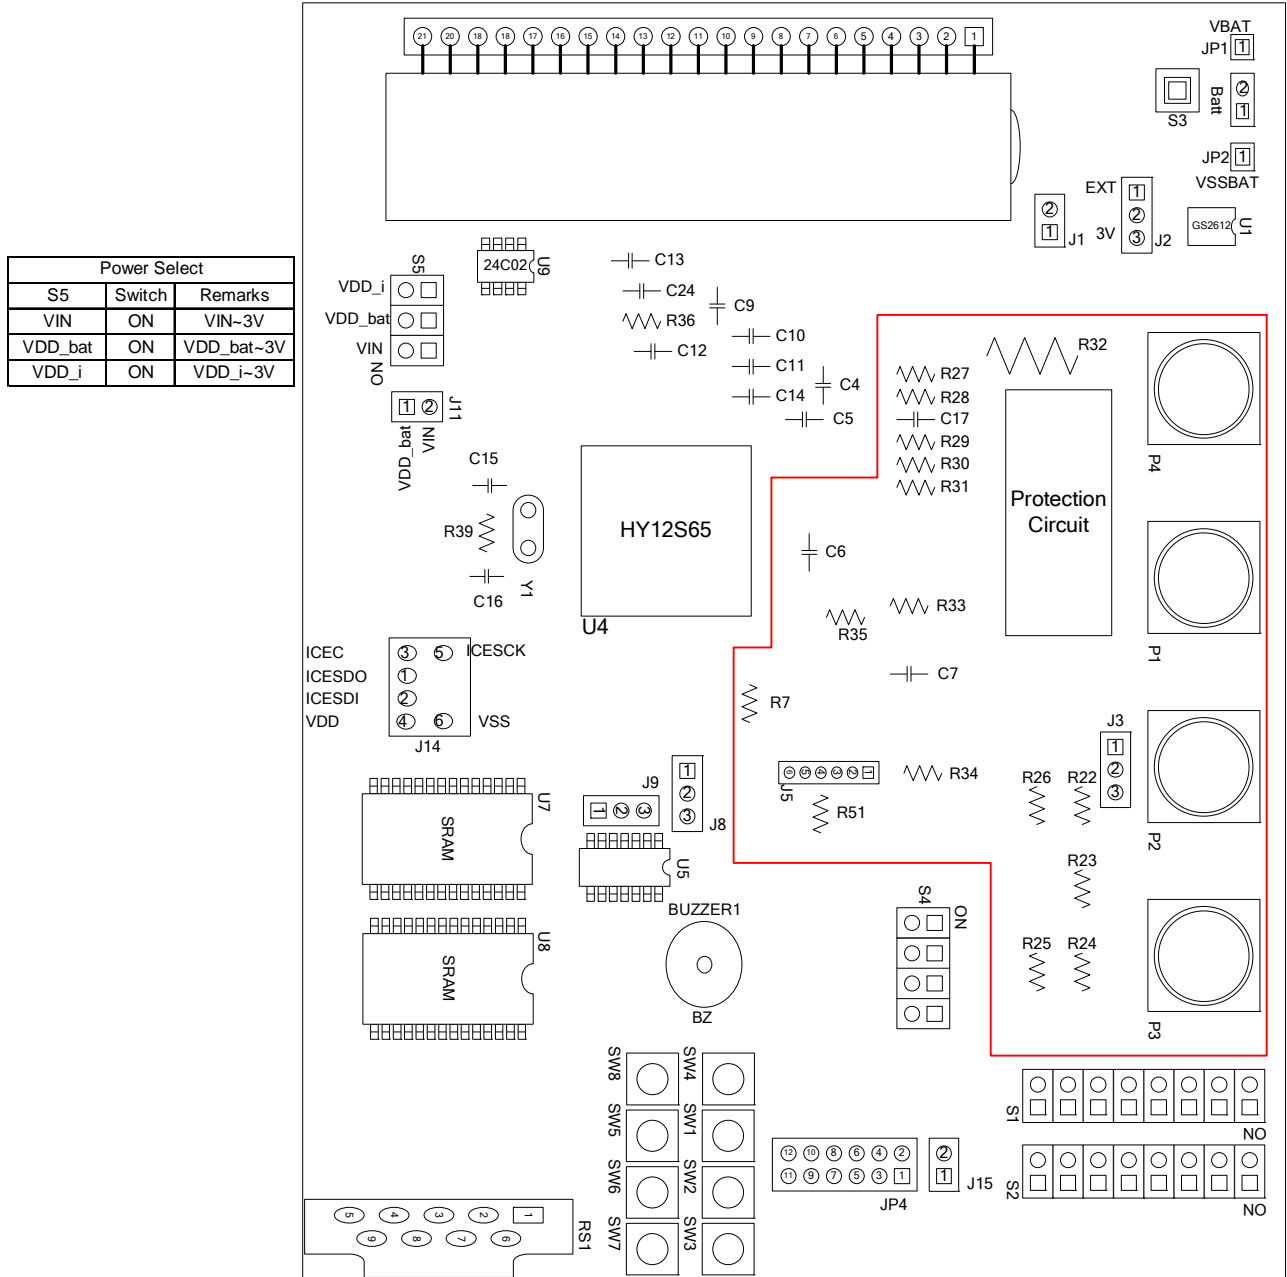
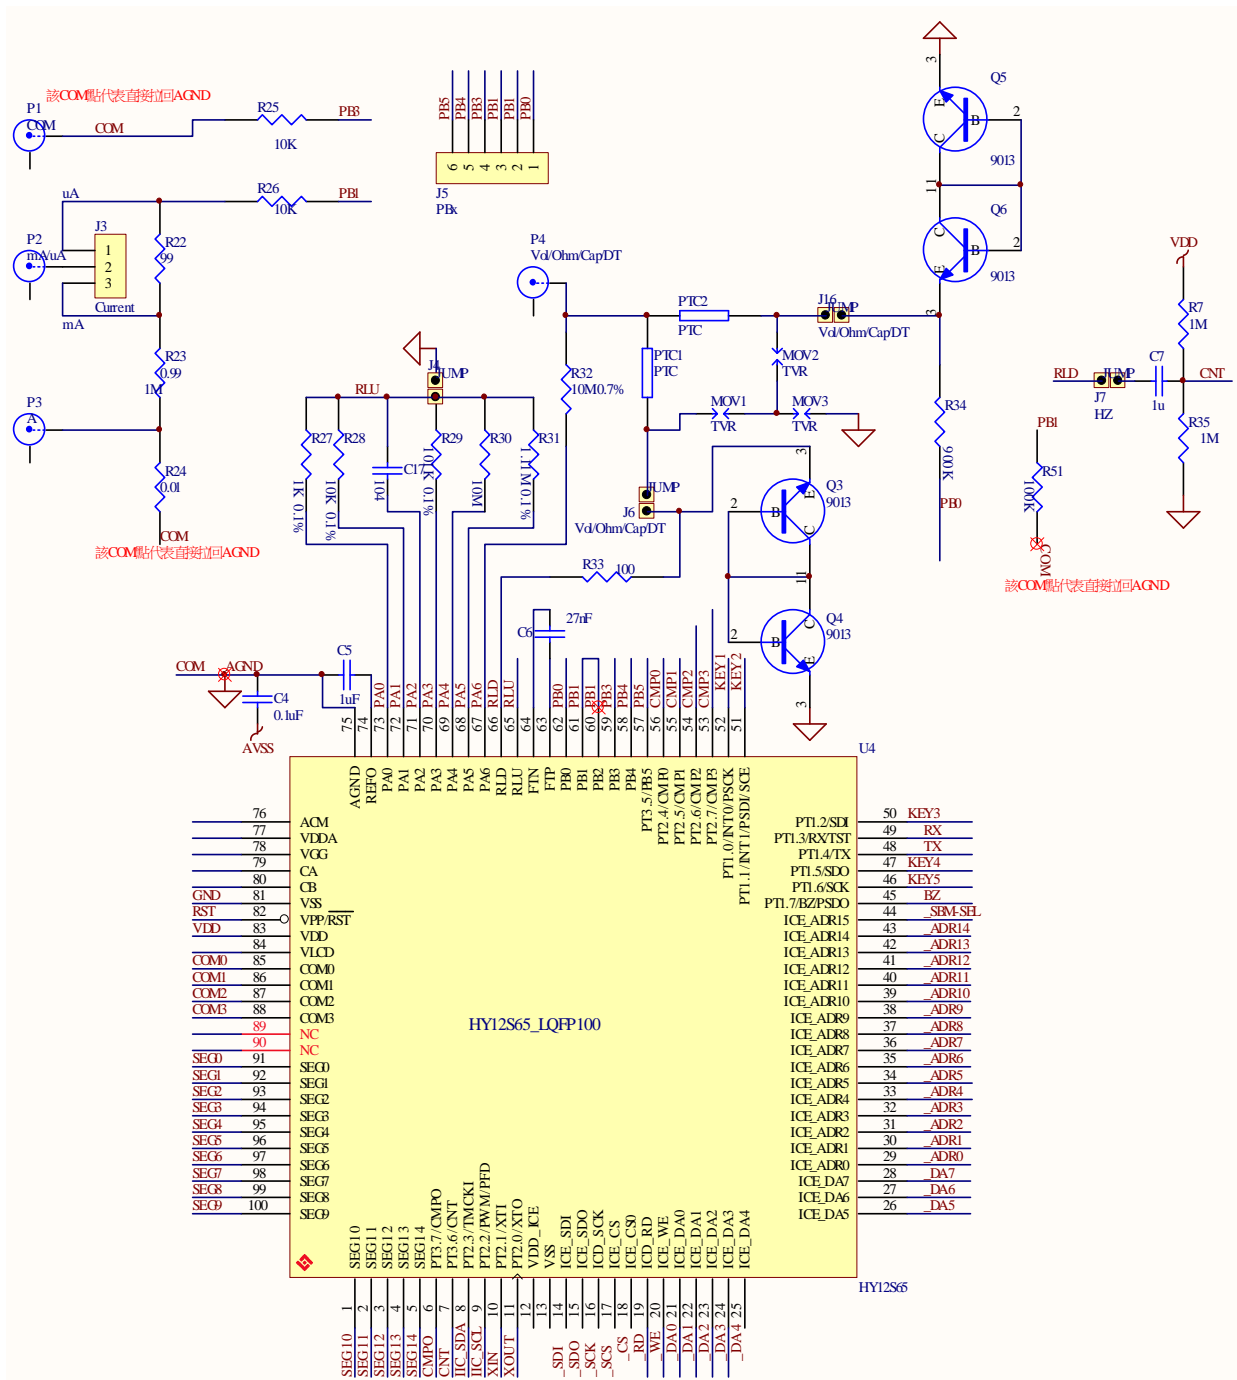

Figure 3
Figure 17
HY-IDE ICE Board is the chip board of HY12S65. Its main function is to implement emulation of HY12P Series Products. This ICE chip can directly emulate HY12P6X Series. HY-IDE ICE Board DK02 is shown in below Figure 3.
Below is the description of Figure 3 connector:
- ◆ Digital Multi-meter (DMM) application measurement circuit: shown in Figure 17 (the diagram is circled in red as in Figure 3).